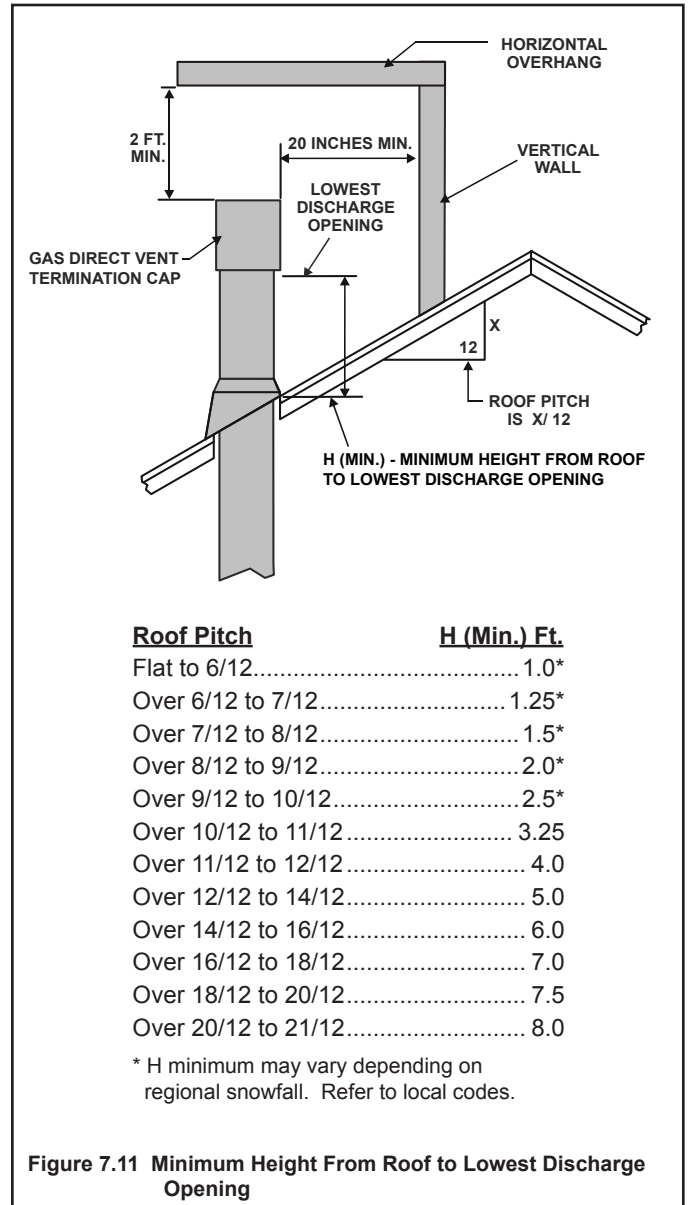

Figure 7.11 Minimum Height From Roof to Lowest Discharge Opening
- See minimum vent heights for various pitched roofs (Figure 7.11) to determine the length of pipe to extend through the roof.